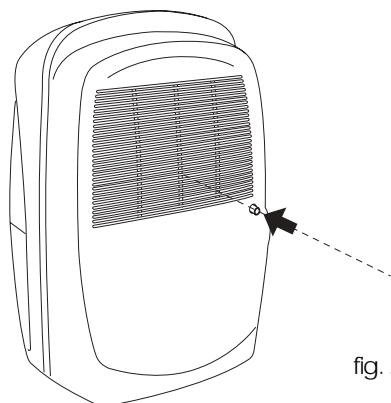

fig. 2
- 1) Drill the inside of the drain spout using a 6 mm. drill bit. (Fig. 2).